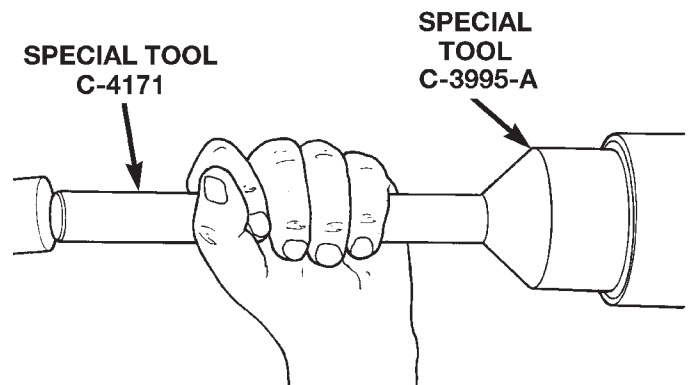

Fig. 13 Install Rear Retainer Seal
(4) Using Installer C-3995-A, install seal in rear retainer (Fig. 13).